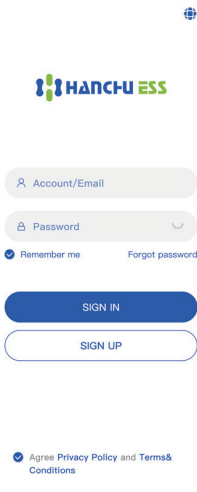

Fig. 1
- If you have already registered, you can log in directly . Then you can turn to **"9.2.2 Bind decives"**.If you don't have an account yet, tap**"Sign up"** to register as shown in Fig. 1.